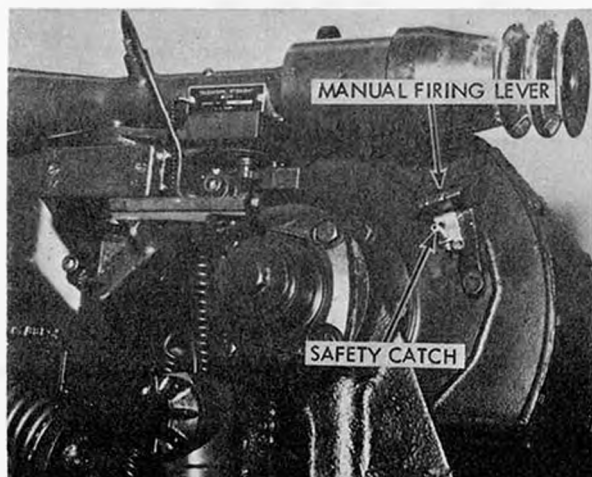

Figure 22. Manual firing lever.
(1) Move safety to FIRE position.
(2) Raise safety catch on manual firing lever and pull lever to the rear (fig 22). When fired manually, the gun will fire automatically, at FAST RATE, with no last round stop functioning in the ammunition feed box.